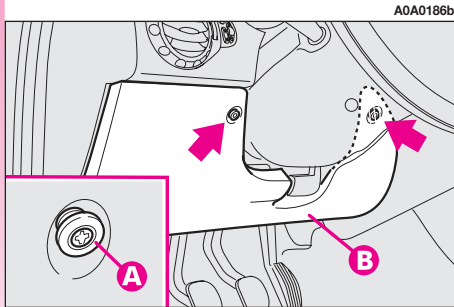

fig. 50
To gain access to the fuses in the fuse box on the dashboard, loosen the two retainers (A-fig. 50) and remove the protective cover (B).